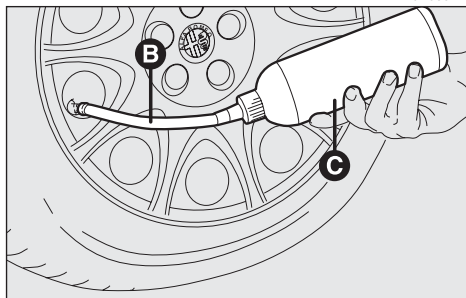

fig. 16
**4)** Introduce the filling pipe (**B-fig. 16**) in the tyre valve, keep the bottle (**C-fig. 16**) with the pipe directed downwards, then press it so that the whole sealer can get into the tyre.